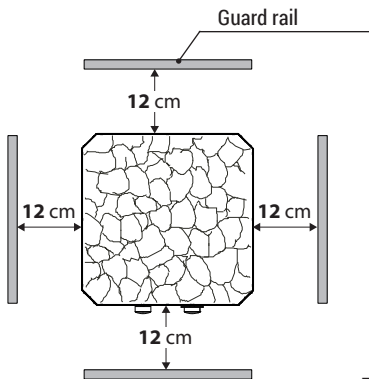

Fig. 2
- The distance from the heater grid and the bench to other inflammable materials near the heater must be at least 12 cm. (Fig. 2)